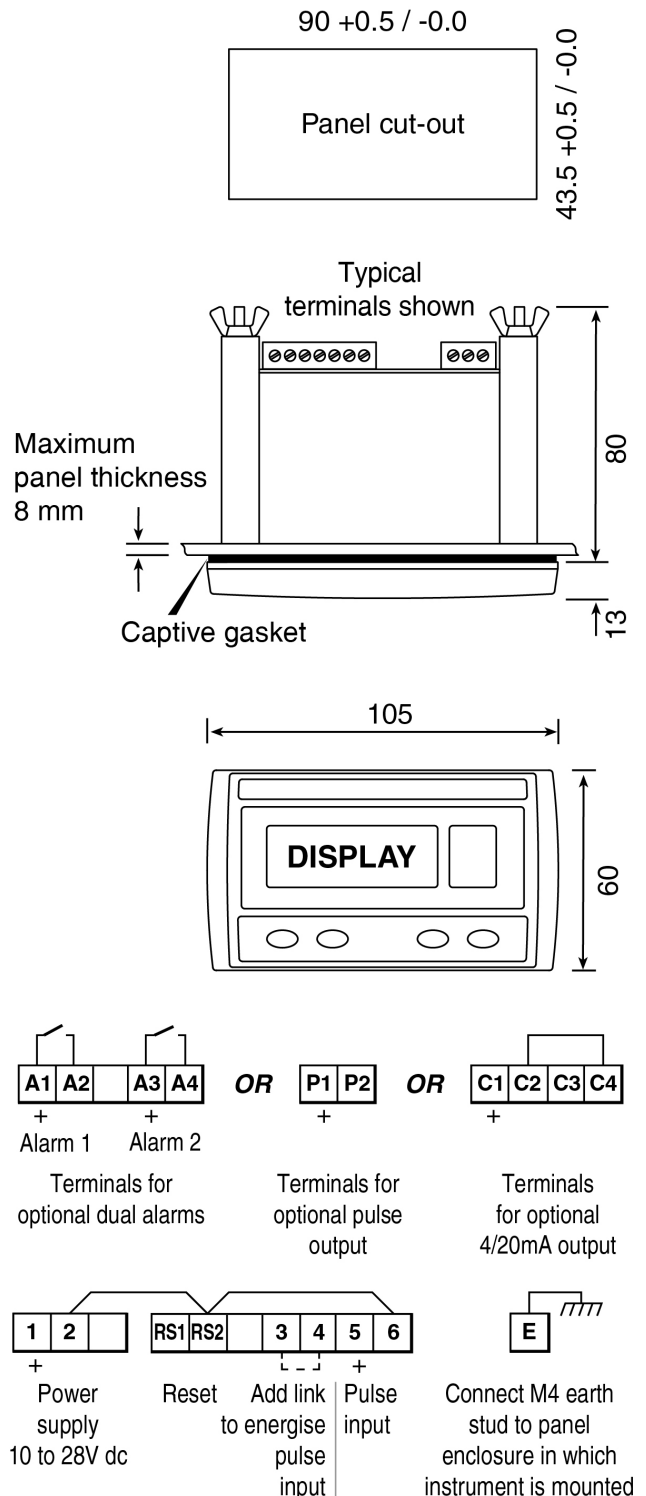

Fig 8 Dimensions & terminals
Fig 8 show the overall dimensions of the BA337E-SS together with the recommended panel enclosure cut-out dimensions and terminals.
- Cut the aperture specified in Fig 8 in the panel enclosure. Ensure that the edges of aperture are de-burred.